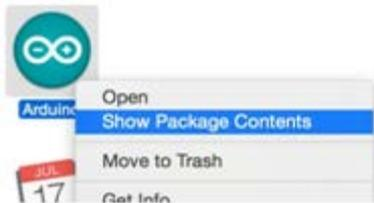

Figure 22. Arduino package content
- b) On Mac OS X, install the COM port driver for firmware update first, as described in section 3.4.1, "A Solution to Enable USB COM Port Access on Mac OS X 10.10". After the driver is installed, open the Arduino package content as shown in Figure 22.